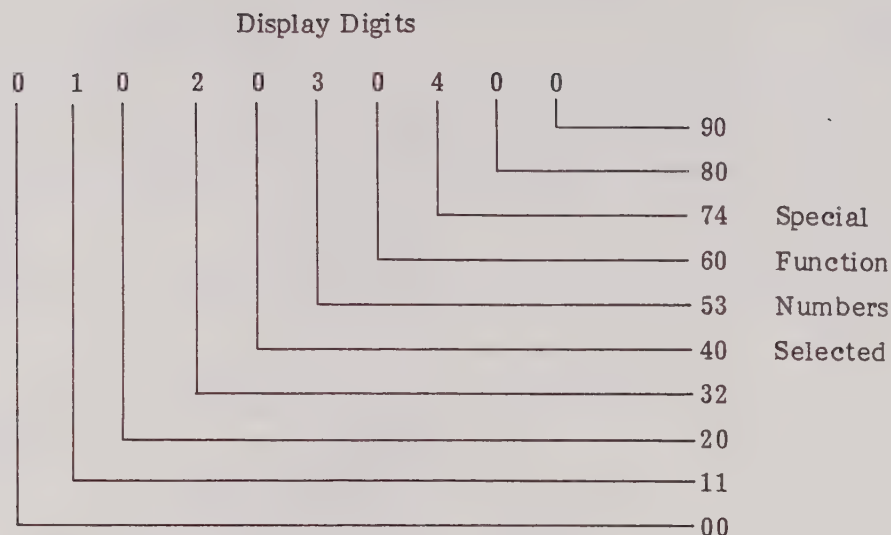

Figure 3-3. Special Function Register Display
3.5.7.3.1 Stored special functions are recalled for display using key sequence **[Menu]** datent(F5) spcfun(F4) rcl_sf(F2). Only the decade is indicated by the position of the digit in the register and the second digit is displayed. Default state has a 0 entered in each position. Refer to Figure 3-3 for a typical special functions display.